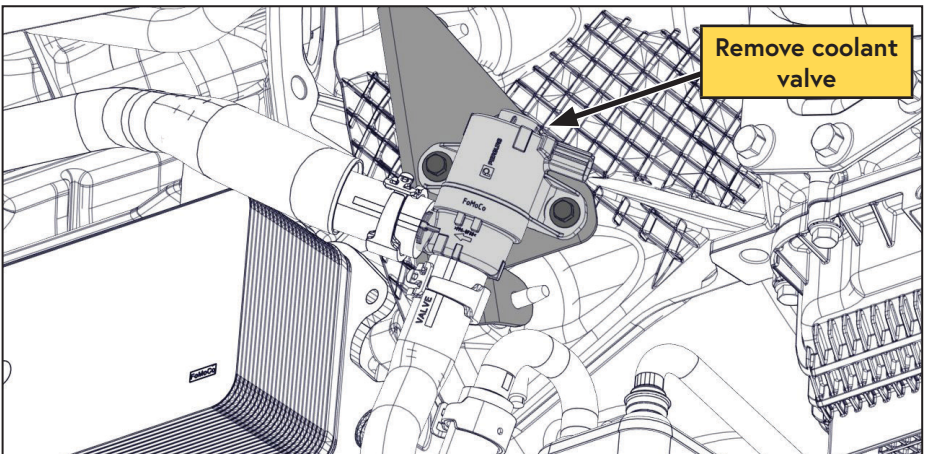

Figure 13 — Connect hose to VMAC cooler
- ☐ Remove the coolant valve (located near the transmission PTO port) from its mounting bracket (Figure 13).